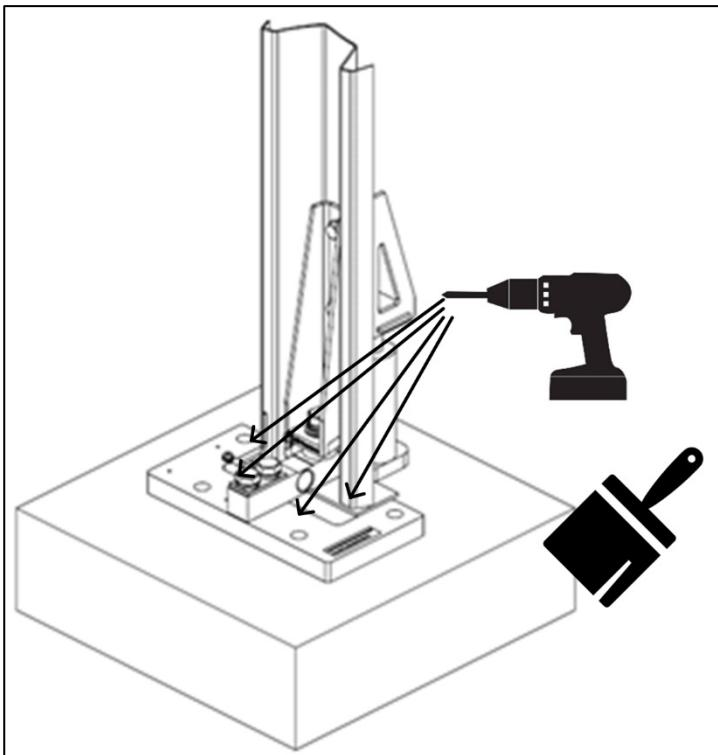

Figure 21: Drilling and cleaning the holes
10. Using a rotary hammer drill with a $\frac{3}{4}$ inch concrete drill bit, drill a 5-inch deep hole on each side of the assembly. Using a brush, clean the area to prevent the concreted powder from entering the holes (Figure 21).